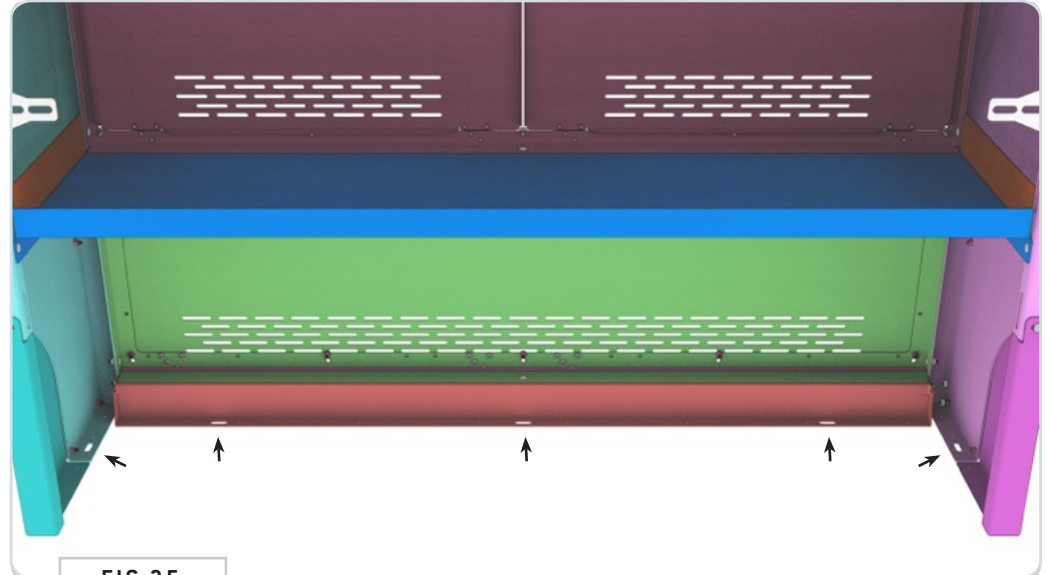

FIG 35
6.2 Attach Cabinets to Van Floor (optional): See available mounting slots in the bottom of the **Left and Right Side Cabinet Ends** and **Toe Kick** in FIG 35. If desired, mark your preferred locations for mounting to the floor and drill out using a **5/16"** Drill Bit. Mount using hardware.